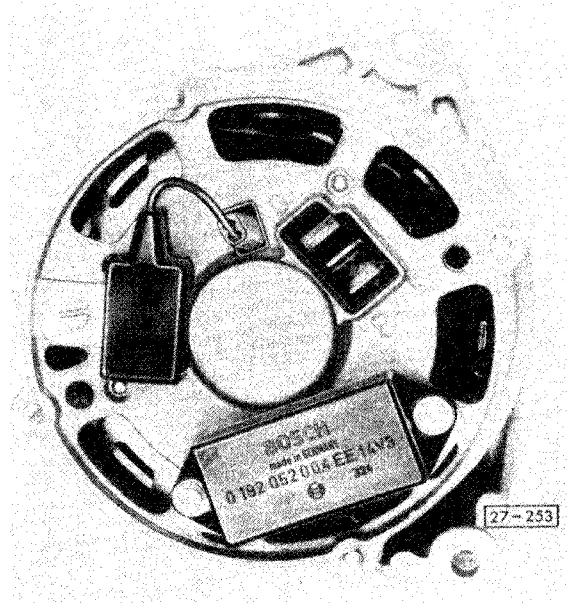

Fig. 1 Suppression condenser, connecting
- if voltage regulator is replaced, suppressor condenser (Fig. 1) (if not already installed) must be added